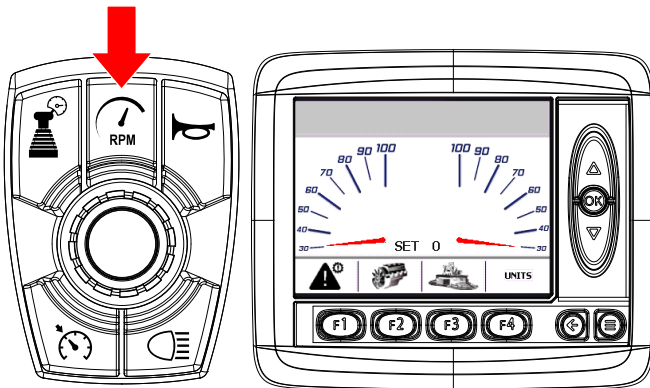

Figure 38. Digital Display (Rotor Speed)
- Press the **RPM button** to view the **maximum rotor speed adjustment screen** on the digital display (Figure 38).